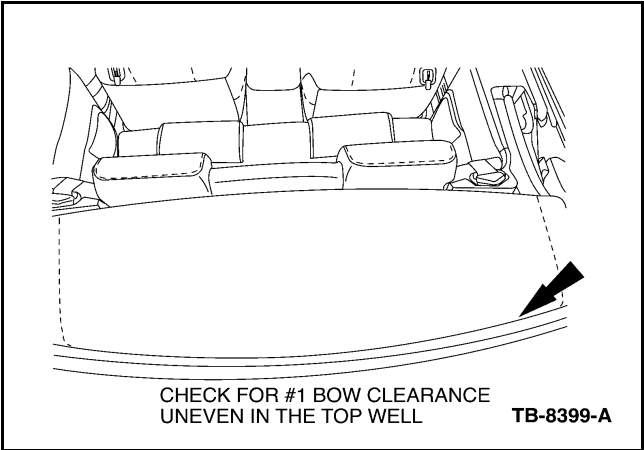

Figure 3 - Article 05-24-6
3. Top #1 bow clearance to top well in the body is uneven. (Figure 3)